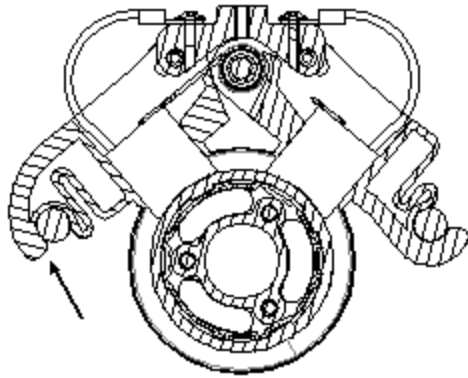

Fig.17
- Leverage to remove the brush holder (Fig. 17).